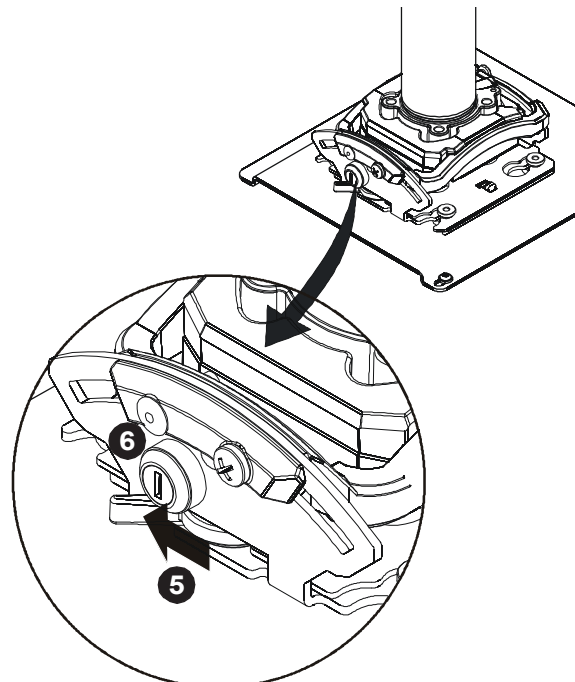

Figure 25
5. Move locking lever to “Locked” position as shown in Figure 25.
6. Insert key (not pictured) into lock and turn to secure BFM2 to mount (O).